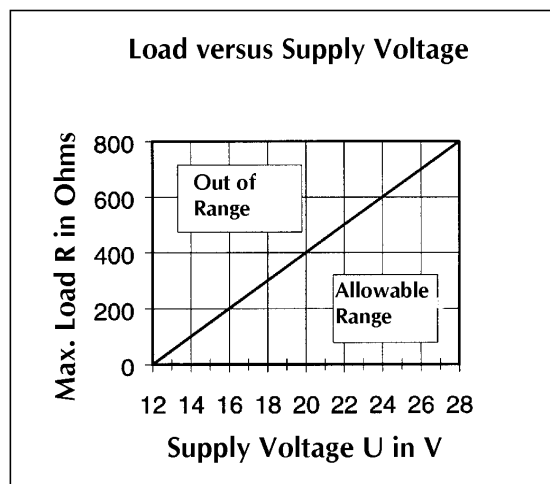

Figure 5.1: Load Impedance versus Supply Voltage
- Maximum cable length depends upon external load impedance (see fig. 5.1).
Max. Load Impedance:	see figure 5.1
Max. Load Impedance	see figure 5.1